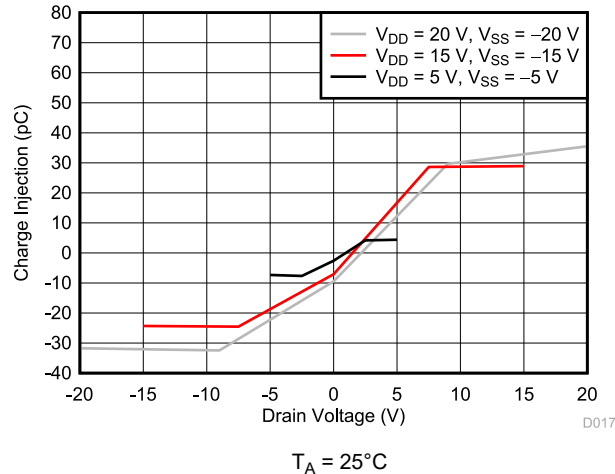

図 9-3. Charge Injection vs Drain Voltage
The low on and off leakage currents of TMUX7208 and ultra-low charge injection performance make this device ideal for implementing high precision industrial systems. The TMUX7208 contains specialized architecture to reduce charge injection on the drain side (D) (see セクション 8.3.7 for more details). 図 9-3 shows the plot for the charge injection versus source voltage for the TMUX7208.